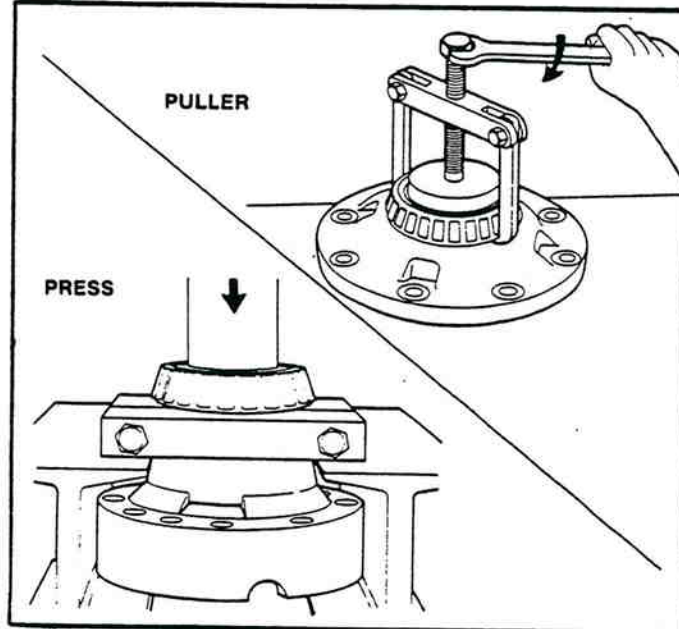

Figure 2-20. Removing Bearing From Case Half.
7. If the differential bearings need to be replaced, remove the bearing cones from the case halves. Use a bearing puller or press (Figure 2-20).